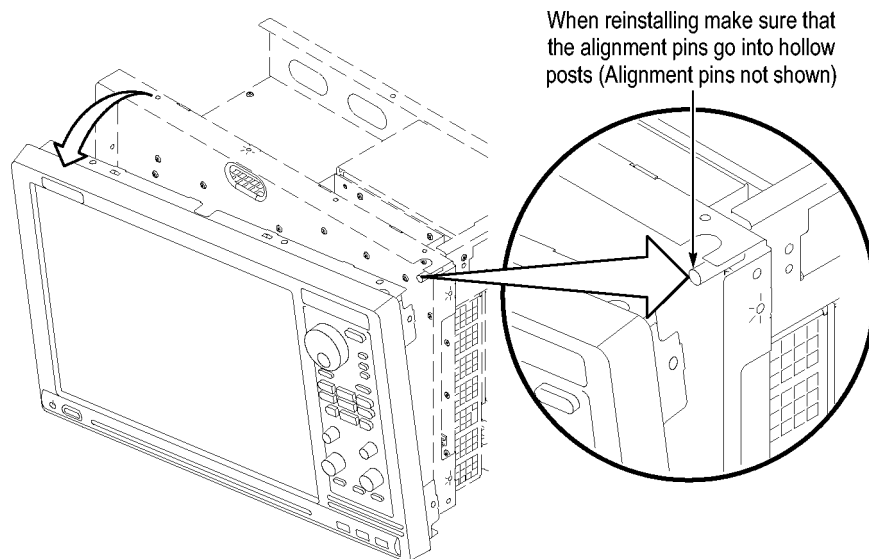

Figure 48: Tilt the front panel forward for cable access
10. Tilt the top of the front panel trim out about 8 inches. (See Figure 48.)